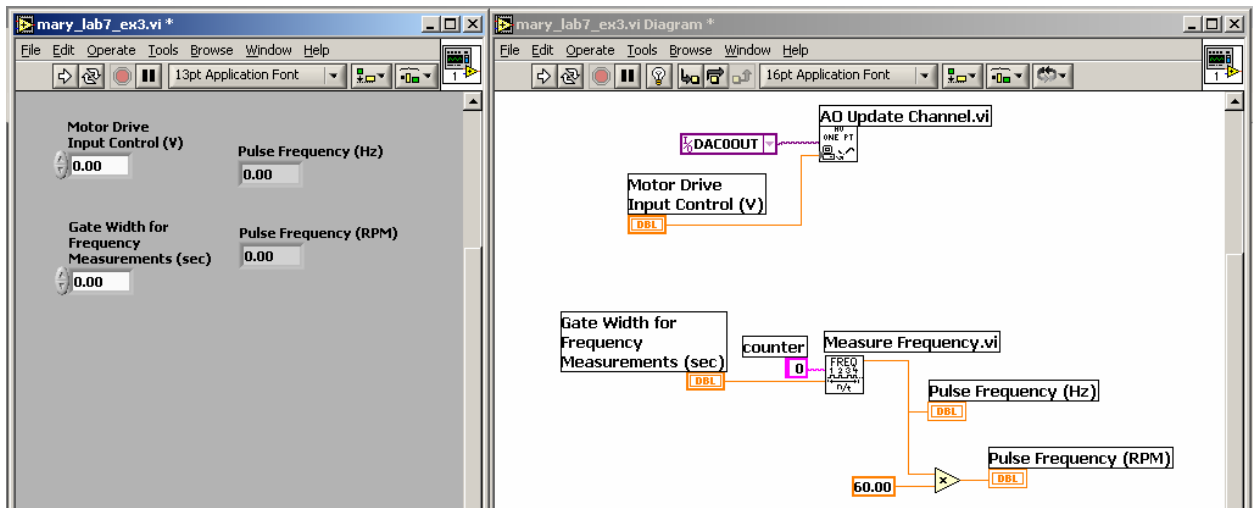

Figure 6. yourname_lab7_ex3.vi: VI for acquiring digital feedback from the slotted disc sensor and converting it to angular velocity.
1. Build the VI shown in Figure 6 and save it as **yourname_lab7_ex3.vi**.